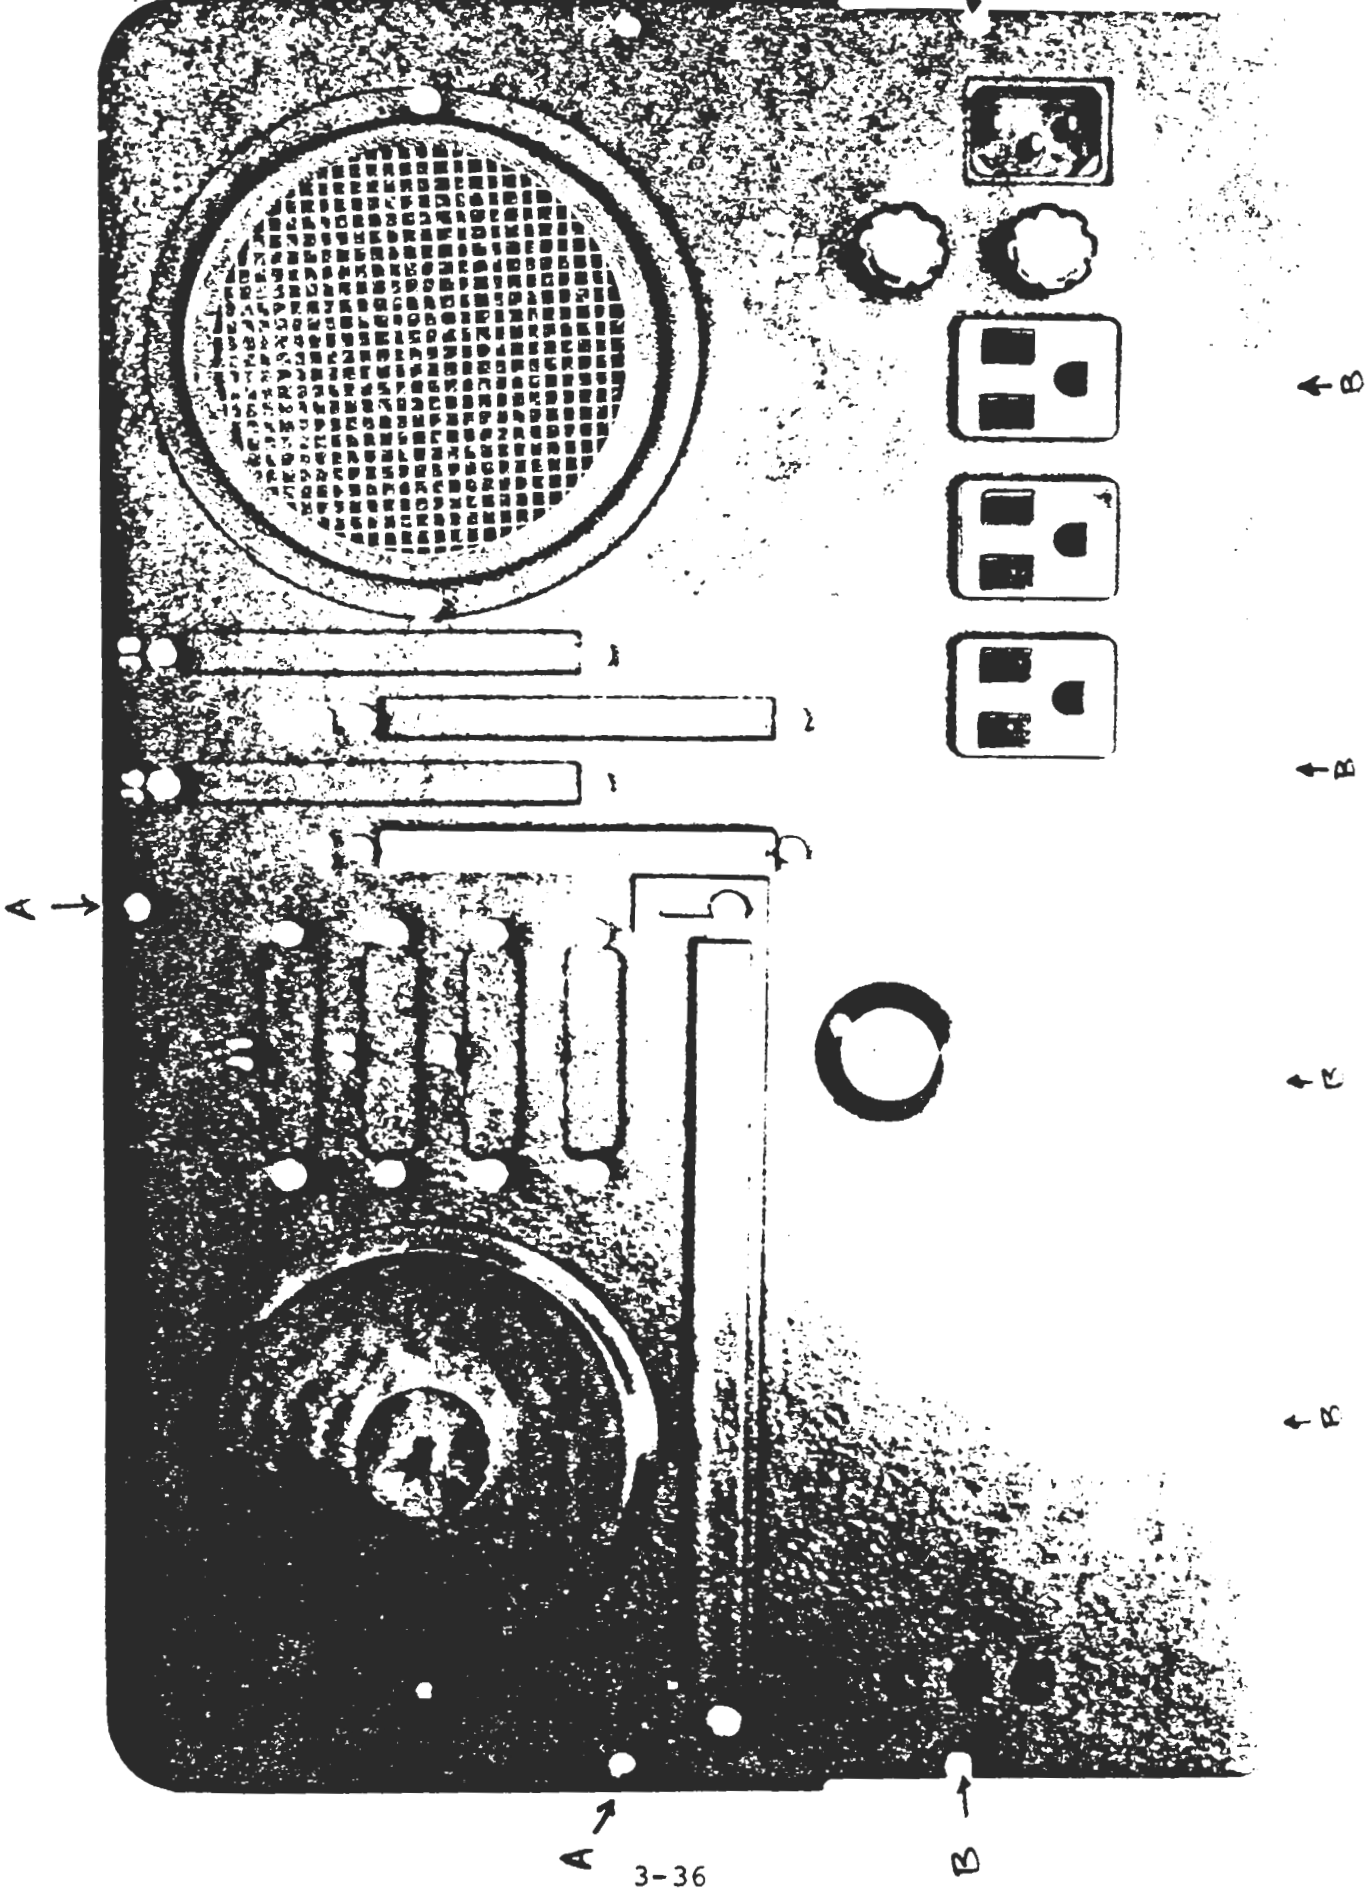

Fig. 3-16 Helios II Rear Panel, Outside View
2. Remove the three screws "A" (Figure 3-16) which hold the cover in place. On the top-front of the cabinet there is a black recessed sliding latch. Slide it to the rear and the cover is released. Lift cover off and set aside.
6. Remove the 6 screws "B" (Figure 3-16) from the rear panel. Carefully lift the panel without pulling hard on the wires still connected to it. In a 4-slot Helios, it may be necessary to unplug some of the wiring that attaches to terminals on the rear panel to have adequate freedom. If so, be sure to label them with tape somehow.